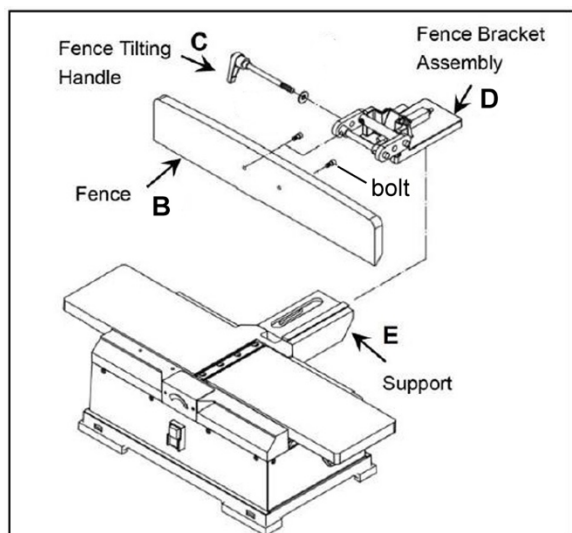
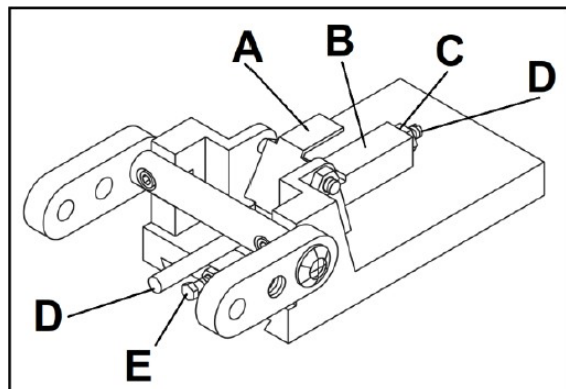

Figure 8-4
Figure 8-5
Attach fence (B, Figure 8-4) to fence bracket assembly (D) with two M6x20 socket head bolts.
Insert fence tilting handle with spacer (C, Figure 8-4) through right link and thread into left link.
See Figure 8-5:
Make sure limit plate (A, Figure 8-5) is resting in slot of block (B). Position fence against shaft (D) and lock fence in position with fence tilting handle.
Place a combination square against face of fence and table surface. The fence and table must be at 90° to each other. If not, loosen tilting handle (C, Figure 8-4), loosen hex nut (C, Figure 8-5) and turn shaft (D, Figure 8-5) with a screwdriver until fence is square. Secure in position by tightening hex nut (C, Figure 8-5).
Use a bevel gauge or protractor to check 45° inward and outward limit stops. The 45° inward stop (E, Figure 8-5) is the hex head bolt located beneath the shaft. The 45° outward stop is located at the top of the fence.